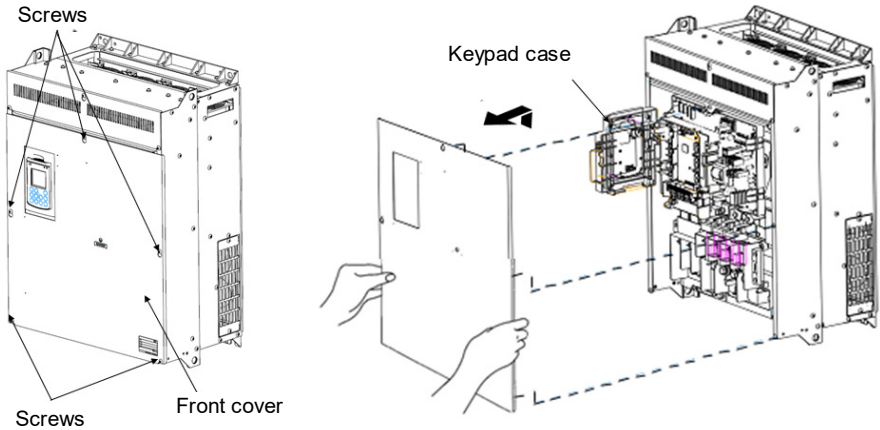

Figure 2.3 Removing the Front Cover and the Wiring Plate (FRN110AQ1S-4□)
(2) 200V class series 55 to 90 kW and 400V class series 110 to 710 kW
- ① Loosen the screws on the front cover, hold the right and left ends of the front cover, and slide it up to remove it.
- ② After making the necessary wiring connections, align the top of the front cover with the holes on the unit and reattach the cover by reversing the process illustrated in Figure 2.3.